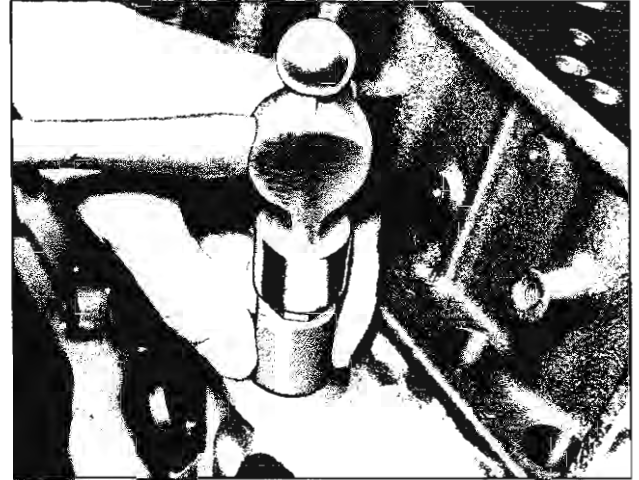

Fig. 68—Installing Distributor Shaft Thrust Washer
4. If thrust washer was removed, start new washer in position in bore and drive into place using Tool J-9535 (fig. 68).